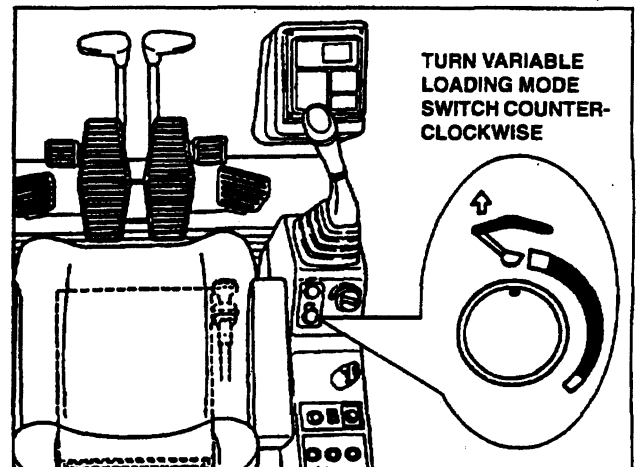

FIGURE 6.30
15. Turn the Variable Loading Mode Switch counterclockwise to the left most setting. See Figure 6.30.